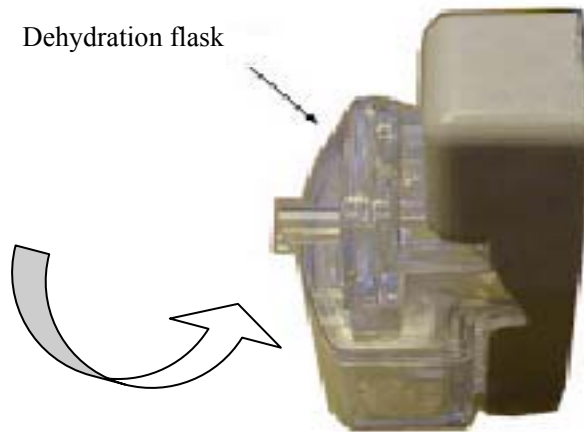

Fig.5-7-1 The installation sketch map of dehydration flask
- According to the Fig. 5-7-1, snap slantways dehydration flask on the receptacle fixed on the side panel of monitor. It will click into place when properly seated.